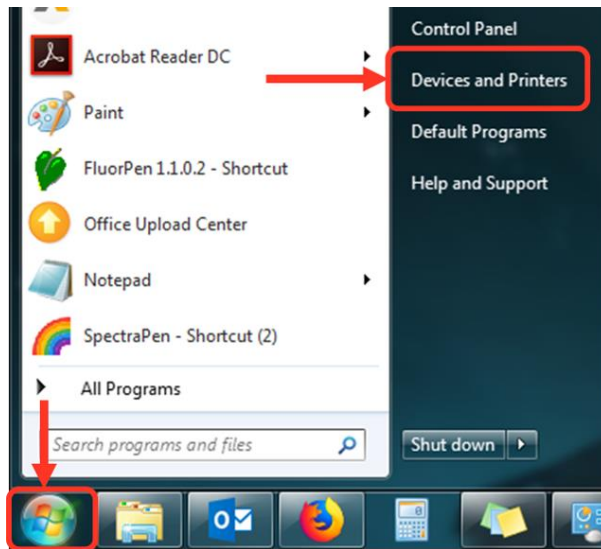

Fig. 12 Start Bluetooth Application.
- Select: **Start > Devices and Printers** (Fig. 12).